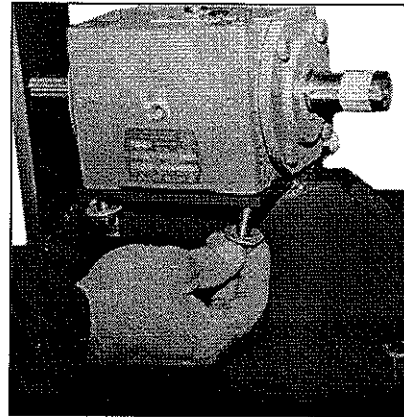

figure 22
2. Remove the gearbox from the mounting assembly (figure 22).